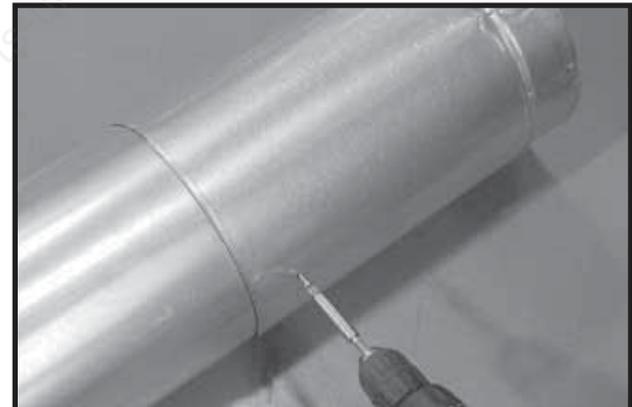

Figure 34. Screws into Slip Section
- Secure the pipe and slip section with two screws no longer than 1/2 in. (13 mm), using the pilot holes in the slip section. See Figure 34.